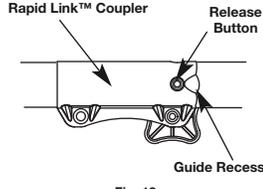

Fig. 13
2. Press and hold the release button (Fig. 13).
**NOTE:** Aligning the release button with the guide recess will help installation (Fig. 13).